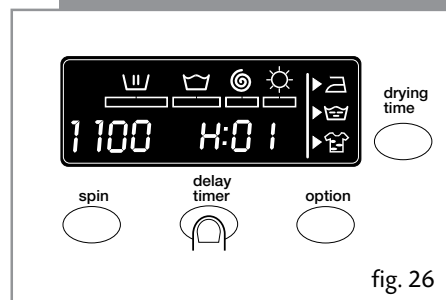

fig. 26
- To set the required delay, press the delay timer button (Figure 26). Each time the button is pressed the delayed start of washing is increased by one hour.